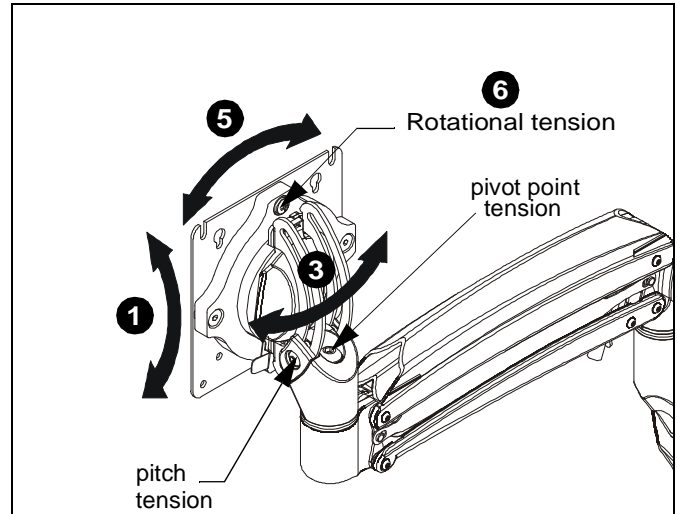

Figure 16
1. Adjust pitch to desired tilt position. (See Figure 16)
2. Adjust pitch tension screw to change the adjustment tension. (See Figure 16)
3. Adjust pivot position as desired. (See Figure 16)
4. Use 3/16" hex key (K) to adjust pivot point tension screws to change pivot adjustment tension. (See Figure 16)
5. The monitor may be adjusted 90 degrees in either direction in order to provide a portrait view of the monitor. (See Figure 16)
6. Use a Phillips screwdriver to adjust rotational adjustment screw to adjust rotational tension. (See Figure 16)